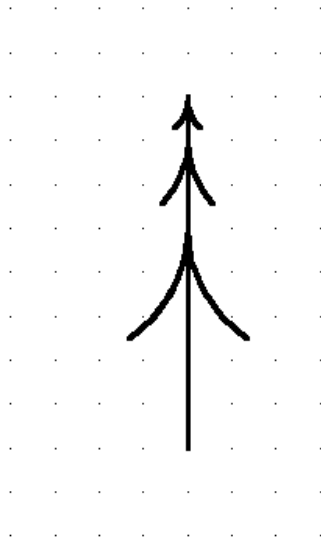

Figure 4-85
1. Select *Settings/Grid / Origin / GIS* and enter “X” and “Y” spacing of **20 (6)** and check the “Display Grid Points” checkbox.
3. Select *Draw/Line/Single* and draw a vertical line of **160ft (48m)** for the trunk. Left click to place the start and drag the line vertically until the status bar d=160 (48) and the line cover 8 grid points then click to place the end.
5. Repeat for the three branches on the right hand side of the tree in mirror image. Your symbol should look like Figure 4-85.